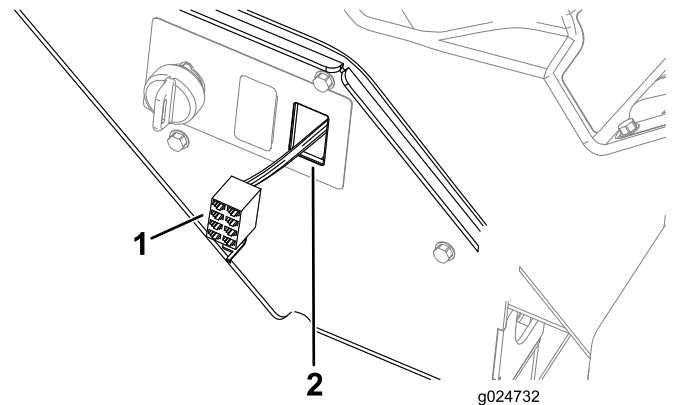

Figure 43
- Route the 8-socket connector of the wire harness through the hole in the side-console mount (Figure 43).